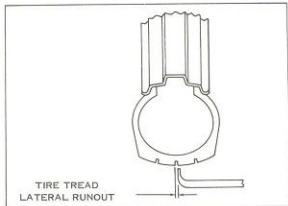

Figure 2-26. Checking Tire Lateral Runout
- Check runout by turning wheel on axle, measuring amount of sideways displacement from a fixed point near the tire (see Figure 2-26).